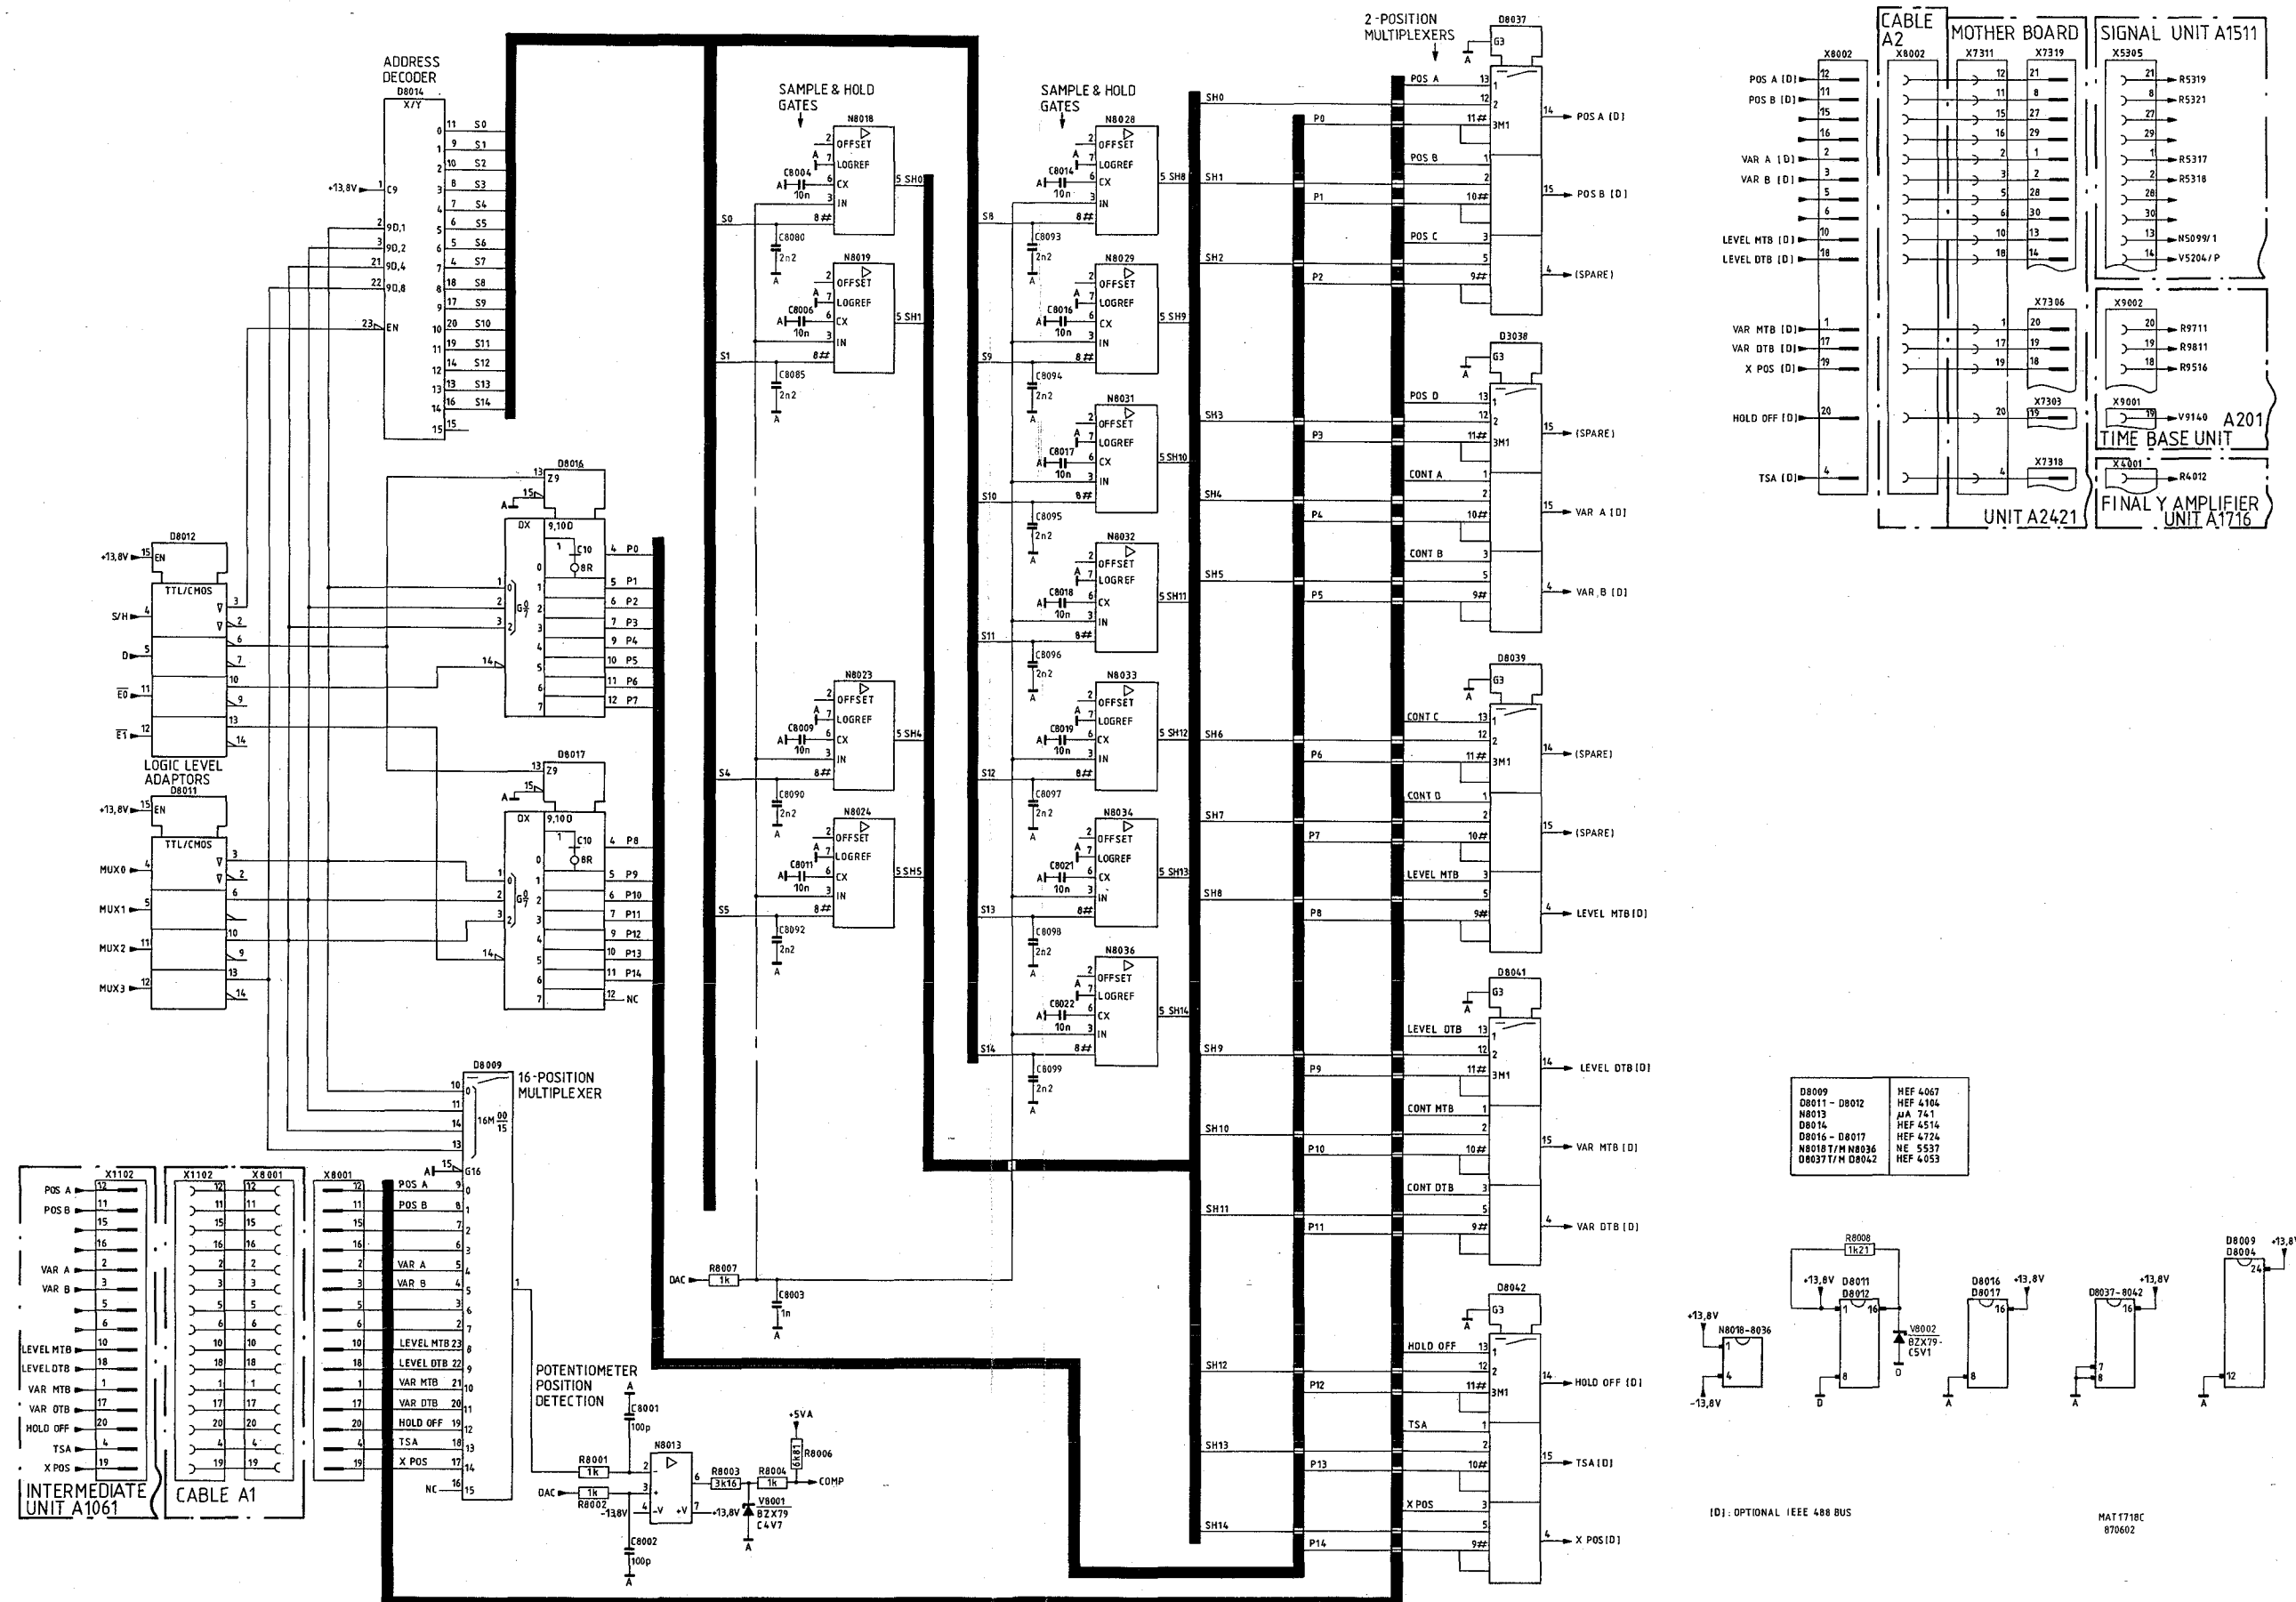

Fig.9.3. IEEE 488 bus unit, circuit diagram 2 (analog part)
9.2. CIRCUIT DESCRIPTION OF DIAGRAM 2 (See fig. 9.3.)